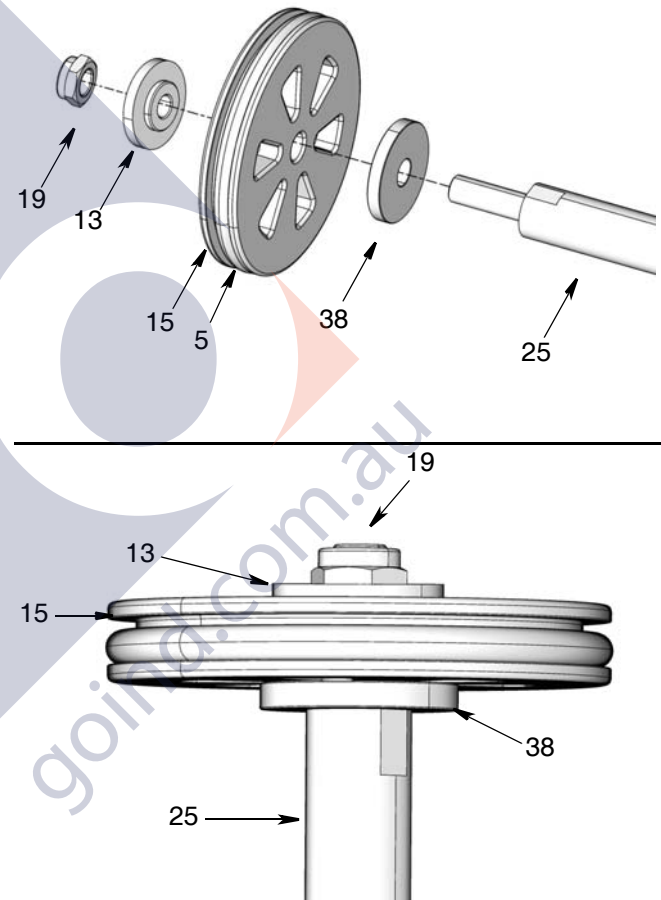

Fig. 37
1. Apply a thin coat of grease around the threaded end of the new displacement rod (25).
2. Assemble washer (38), air piston (15), gasket (13), o-ring (5) and hex nut (19) to displacement rod (25) as shown in Fig. 37. Be sure the male boss on gasket (13) mates with the counter bore in air piston (15). Tighten and torque nut (19) to 155 - 165 in. pounds (17.5 - 18.6 N.m).